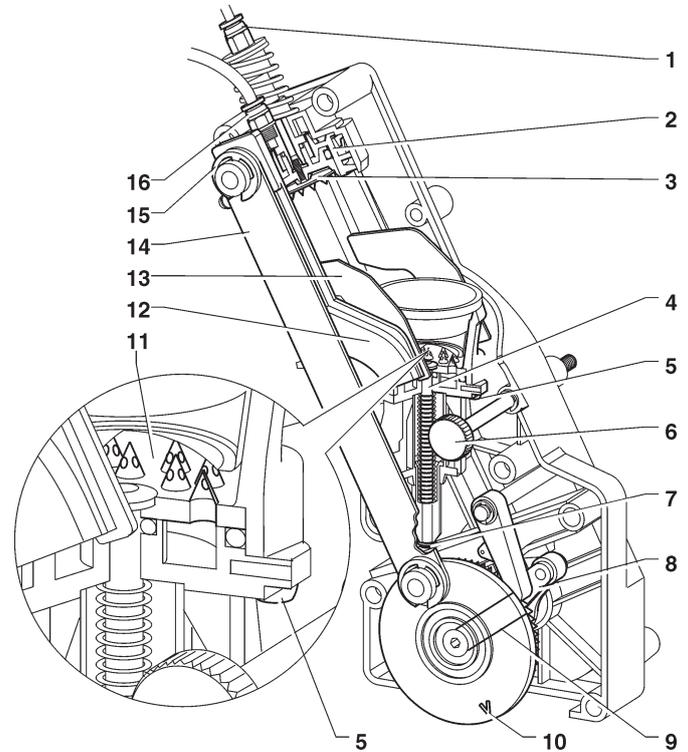

Fig. 29
- detach the teflon tube for connection with the boiler and the tube for hydraulic control of the piston from the upper piston by acting on coloured rings (see fig. 29);